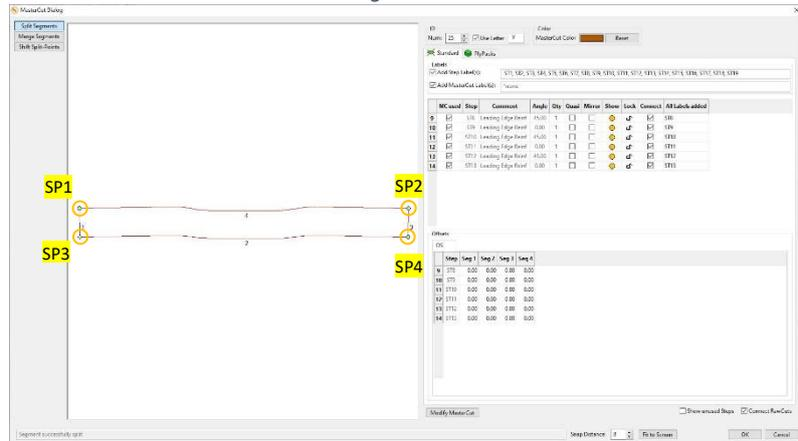

Figure 294
- 90. ... and for MasterCut Y and split the outer geometry as shown in Figure 294...